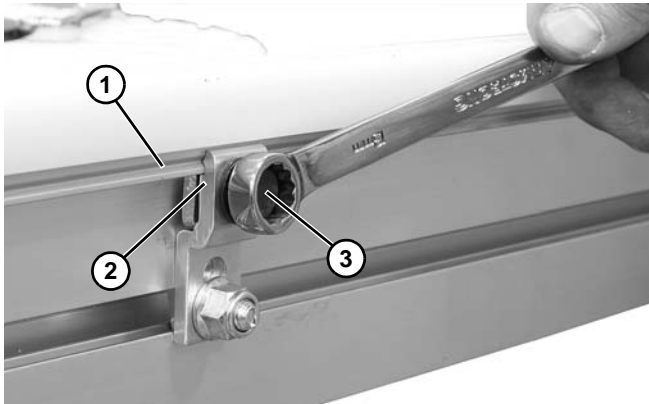

Figure 88
5. Attach guiding (Figure 88, item 1) to clip (Figure 88, item 2) and tighten screw (Figure 88, item 3).